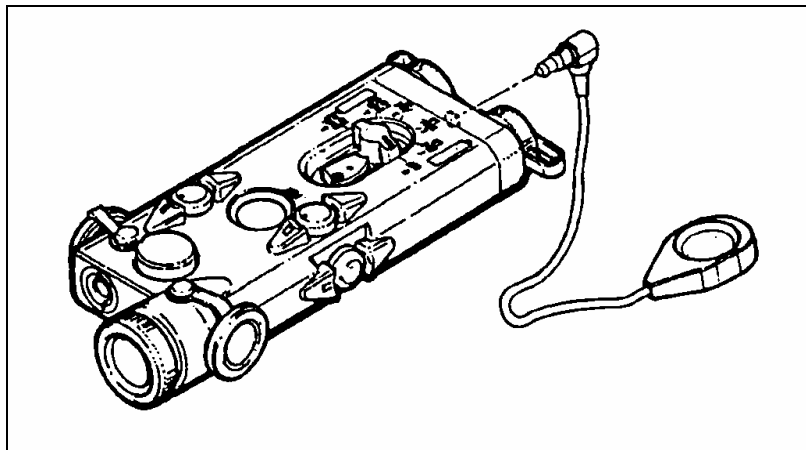

Figure G-5. Installation of the cable switch.
(5) **Cable Switch.** The cable switch is used when the AN/PEQ-2A is mounted on a weapon (Figure G-5). The cable switch plugs into the back of the AN/PEQ-2A assembly. Pressing the button or pad at the end of the cable switch causes the unit to turn on in the operational mode selected by the mode select switch. When released, the AN/PEQ-2A turns off.